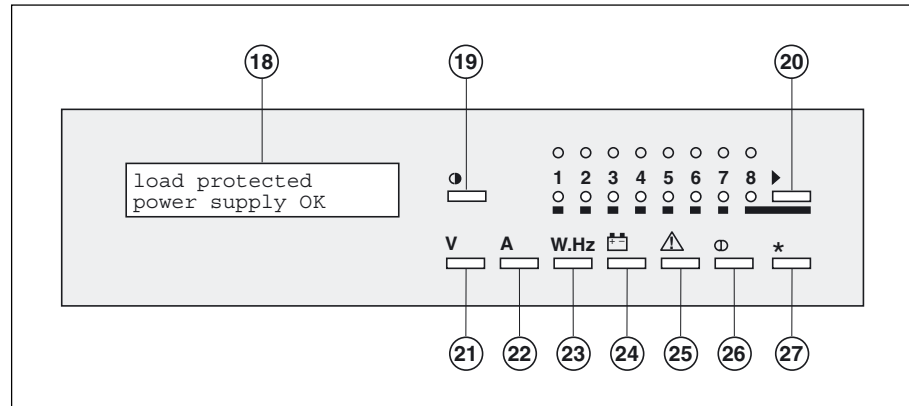

Fig. 34
► **local operation.** The "Monitor" alphanumeric display (see figure 34) may be installed behind the hinged cover of the hidden panel (see figure 25) on the control panel in all types of cubicles (UPS or Static Switch Cubicle).